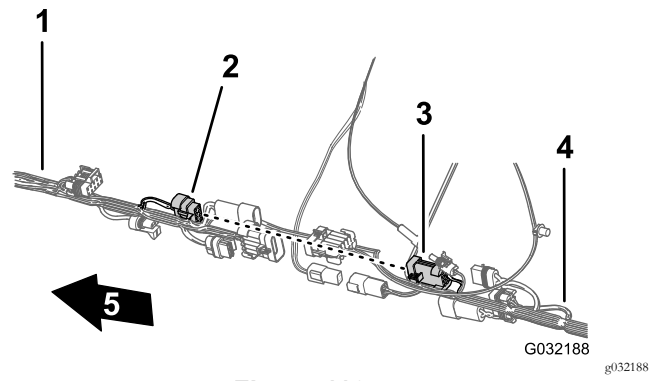

Figure 116
3. Connect the 8-pin connector of the front harness for the sprayer-harness interconnect into the 8-socket connector of the rear harness for the rate switch (Figure 116).